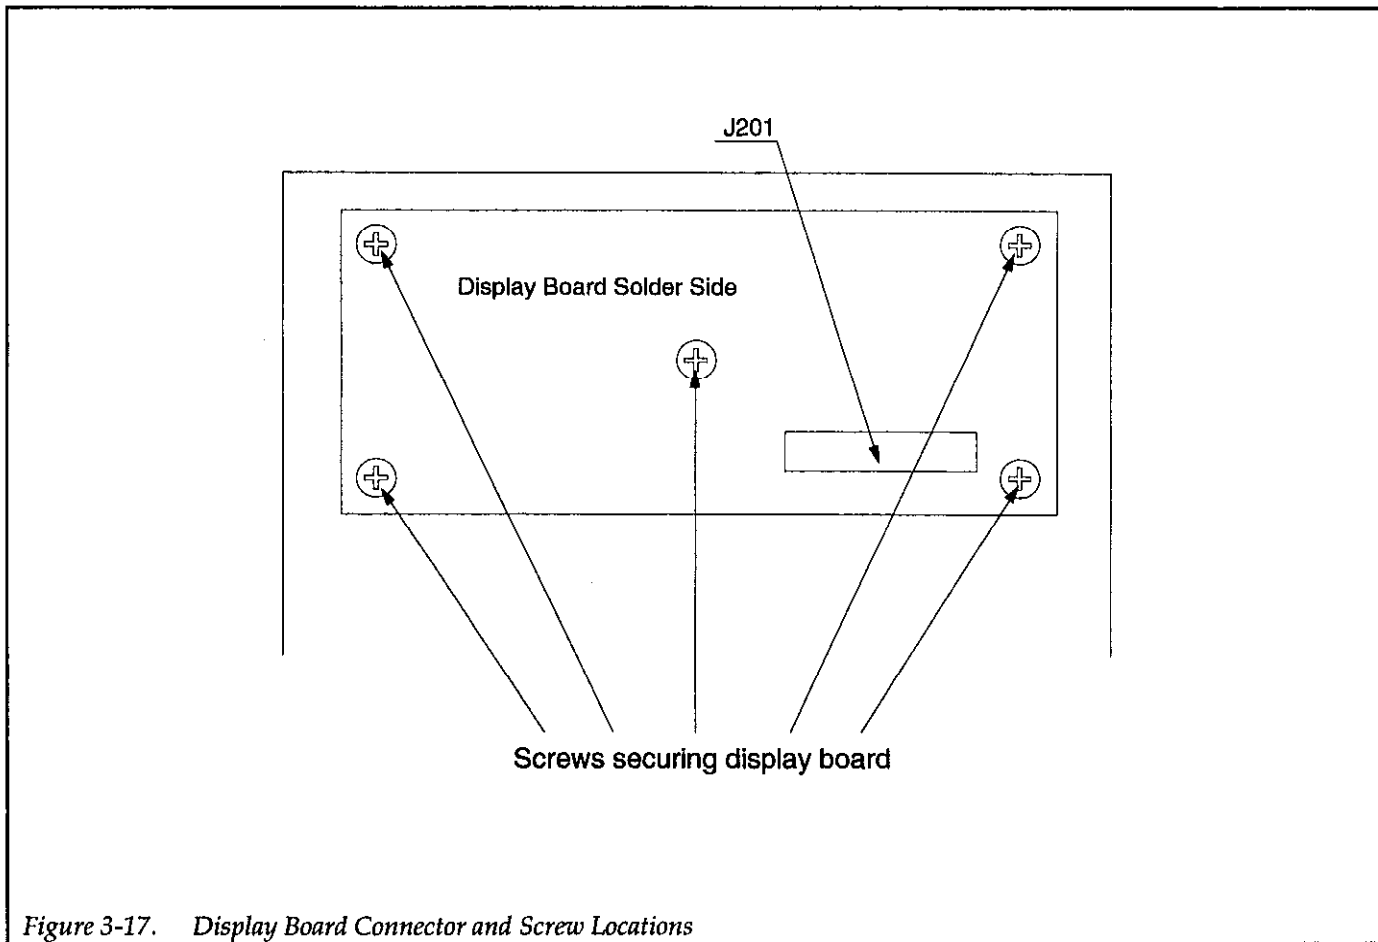

Figure 3-17. Display Board Connector and Screw Locations
1. Disconnect the flat cable connector, J201 (see Figure 3-17).